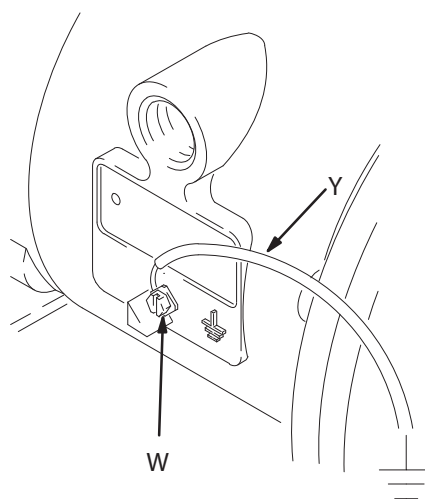

Fig. 1
Polypropylene and PVDF are **not** conductive. Attaching the ground wire to the grounding lug only grounds the air motor. When pumping conductive flammable fluids, **always** ground the entire fluid system by making sure the fluid has an electrical path to a true earth ground. See Fig. 1.
- **Pump:** Connect a ground wire and clamp as shown in Fig. 1. Loosen the grounding screw (W). Insert one end of a 12 ga (1.5 mm²) minimum ground wire (Y) behind the grounding screw and tighten the screw securely. Connect the clamp end of the ground wire to a true earth ground. Order Part No. 237569 Ground Wire and Clamp.